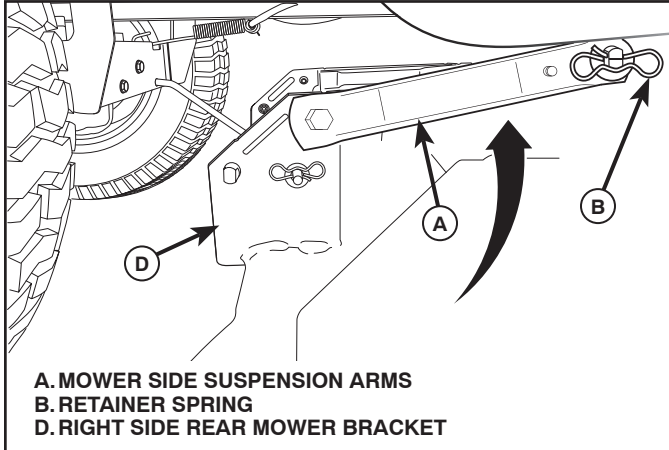

Fig. 31
## 6. ATTACH MOWER SIDE SUSPENSION ARMS (A) TO CHASSIS (See Fig. 31)
- Position front hole in side suspension arm (A) over pin on outside of tractor chassis and secure with large washer and large retainer spring (B).